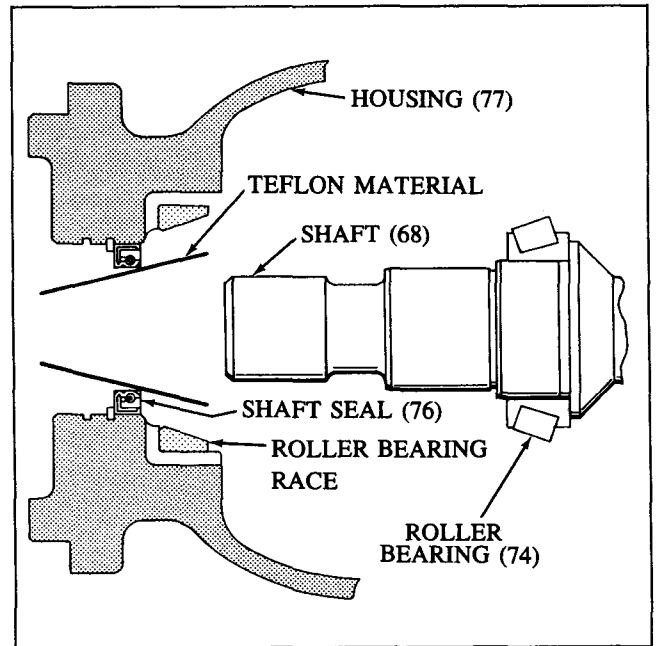

Figure 15. Shaft (68) Installation
The following step describes the assembly of shaft (68) into housing (77). Refer to Figure 15 during this process.
6. Install shaft (68) as follows:
- a. Lubricate roller bearing (74) and shaft (68). Assemble roller bearing (74) on shaft (68).